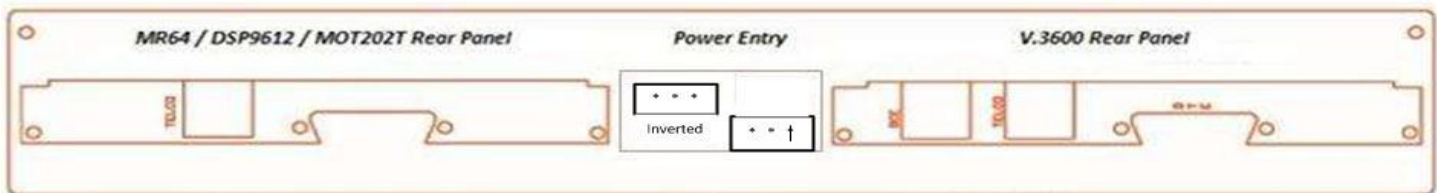

Figure D-2.
Figure D-2 lists the function of the modular jacks on the back panel of RMX-R redundant power supply model.
**NOTE:** This figure is for illustrative purposes only. Actual units will have either the DSP9612/MOT202T Rear Panel OR the V.3600 Rear Panel. Power connectors vary depending on the model. See Figure D-2.